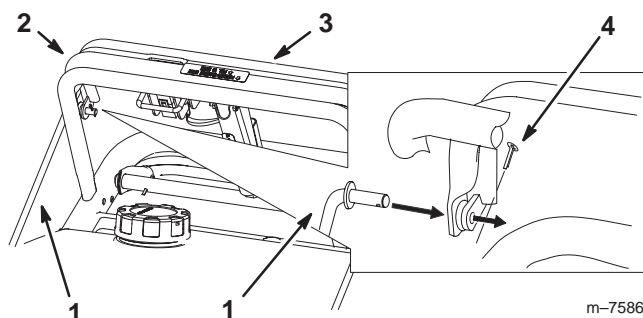

Figure 9
1. Install the control rods into the upper control bar and the blade control bail. Secure the control rods with 2 cotter pins (Fig. 9).